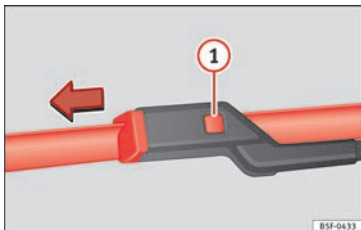

Fig. 80 Changing the windscreen wiper blades
- Press and hold release button »» Fig. 80 ❶ and pull gently on the wiper blade in the direction of the arrow.